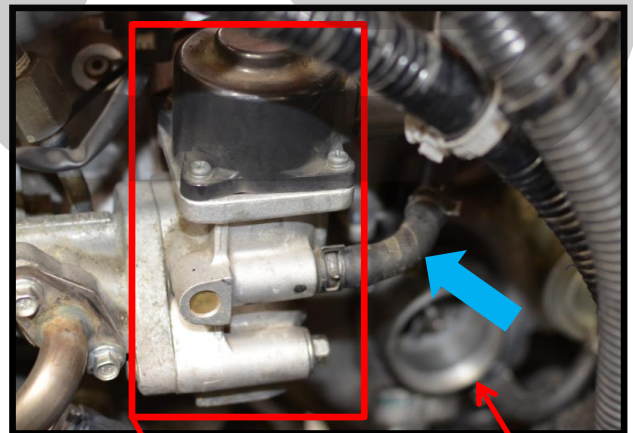
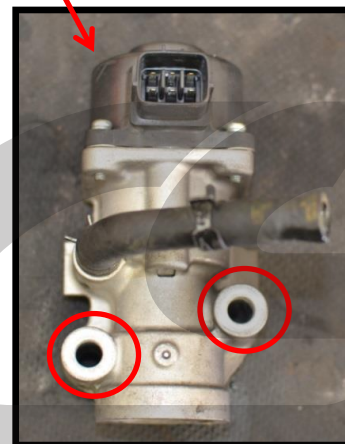

Figure 8d
Figure 8e
- e) Release the spring clamp on the upper coolant line that routes from the EGR valve to the turbocharger. Then, pull the line off the turbocharger. Coolant line showed with the **blue arrow** in **Figure 8d**.
- f) Remove the two 10mm flange bolts holding the EGR valve. The mounted EGR valve is shown in **Figure 8d** and the bolt locations are shown in **Figure 8e** circled in red.